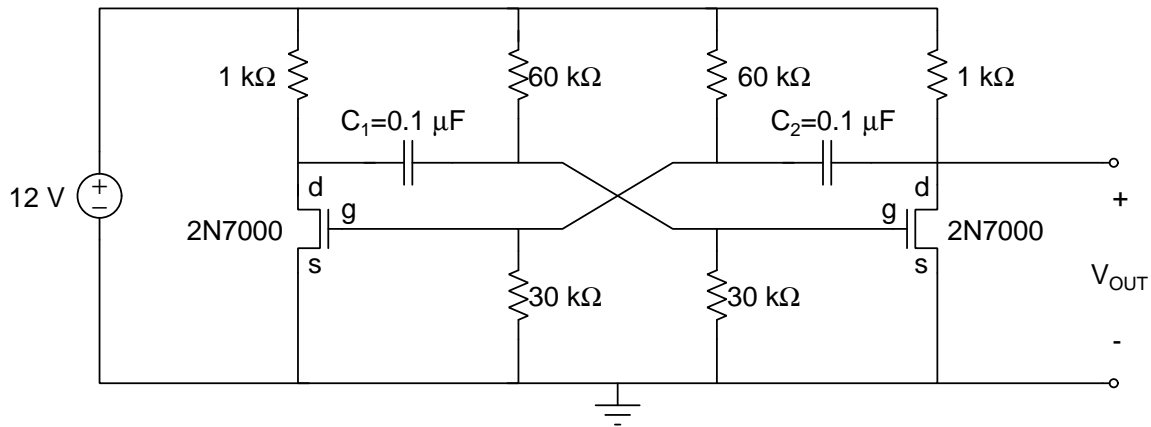
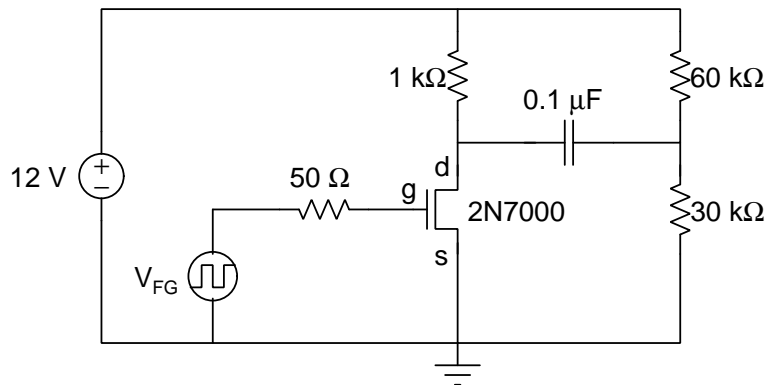

Figure 2: Astable multivibrator circuit of Figure 1 with 2N7000 transistors used as voltage-controlled switches.
Figure 3: Multivibrator half-circuit.
4. Use NGSpice to analyze the operation of this circuit. Replace the ideal switches with 2N7000 NMOS transistors as shown in Figure 2. The NMOS transistor acts as a voltage controlled switch. In a NMOS transistor, current flows between the drain (D) terminal and the source (S) terminal when the gate (G) to source (S) voltage ( $V_{GS}$ ) is greater than the threshold voltage ( $V_t$ ) of the transistor; Under this condition, the D and S terminals are shorted together. No current flows between the drain (D) terminal and the source (S) terminal when  $V_{GS} < V_t$ ; Under this condition, the D and S terminals are isolated from each other.
1. Build the multivibrator half-circuit shown in Figure 3.
2. Set the function generator to produce a triangular wave with a voltage from 0 to 5 volts and a frequency equal to that found in step 5 of the Pre-Lab. Use the scope to watch the voltage at the gate (G) and the drain (D) of the 2N7000 transistor. Determine the gate voltage that causes the transistor to turn-on and off. Try and find two transistors that have approximately the same switching voltage.
3. Build the full astable multivibrator circuit shown in Figure 2. This circuit should oscillate when power is supplied.